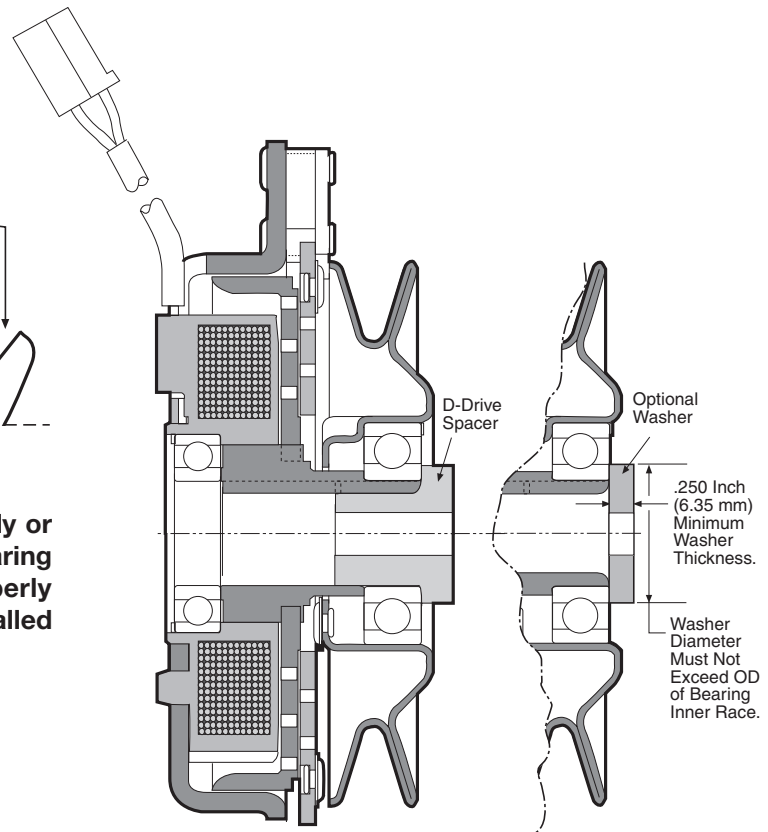

Figure 3
3. Remove mounting bolt. Making sure that mounting bolt and washer is saved for installation of new clutch. If a D-drive is used on a Mag Stop style clutch, the new clutch will have the D-drive installed. See figure 3.